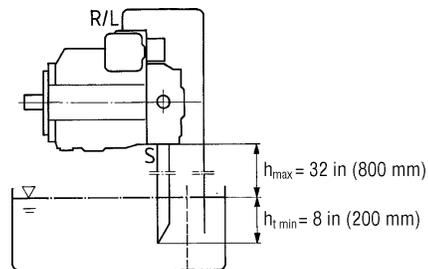

Fig. 4
b) If the minimum fluid level falls below the upper point on the pump: The leakage port and possibly the suction port are to be piped according the fig. 4. The requirements in point 1.2. are to be met. Fill the pump housing before commissioning.
a) For mounting above the tank install as fig. 4.